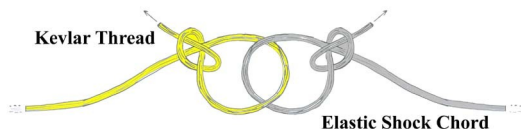

Figure 6
- Step 13** Tie a slip knot in one end of the elastic shock chord, then insert the free end of the Kevlar thread through the loop and tie an intersecting skip knot in it, as shown in Figure 6. Pull these two knots together, and coat them with a layer of thinned glue to secure them. When dry, attach one of the two snap swivel links to the free end of the elastic chord with a slip knot, and secure it with thinned glue. Allow to dry. Do not attach the shock chord to the nose cone at this time.